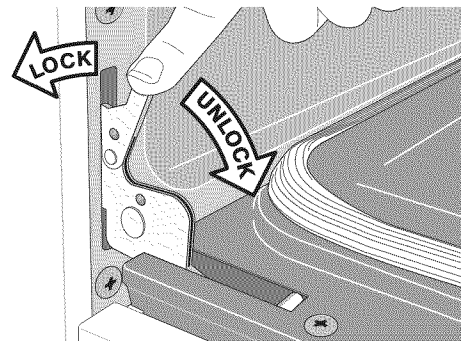

Figure 48: Door hinge locks
2. Pull the door hinge locks on both left and right door hinges down from the oven frame completely toward the oven door (See Figure 48). A tool such as a small flat-blade screwdriver may be required.
4. Push the door hinge locks up toward and into the oven frame on both left and right oven door hinges to the locked position (Figure 48).